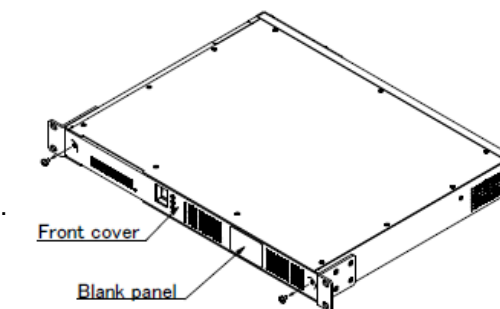

Figure 1. Extraction of front cover
2. Remove the front cover of the 161UPSC as shown in Figure 1.
3. Remove the power supply blank panel as shown in Figure 1, 2.